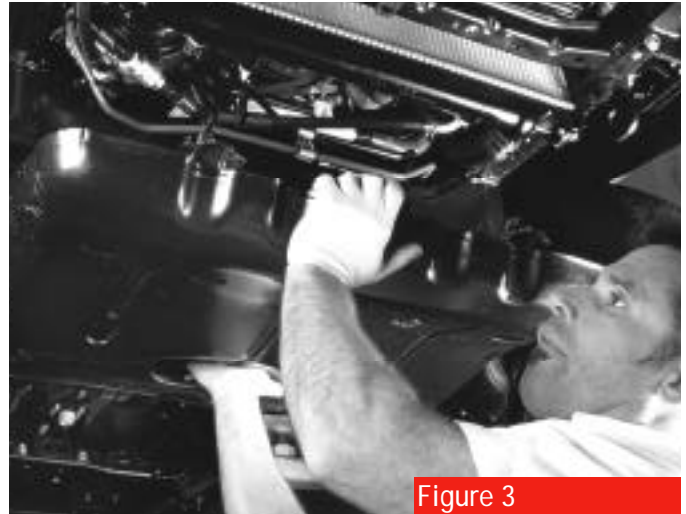

Figure 3
3. If equipped, remove the gravel guard from beneath the radiator (**figure 3**). This will give you access to the A/C belt adjuster.